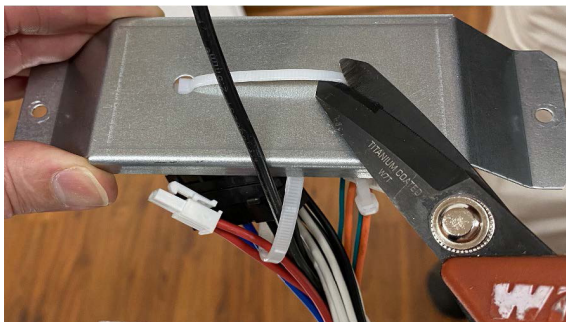

Fig. 57 Remove egress cover
4. Remove the egress cover from the harnesses (Fig. 57).